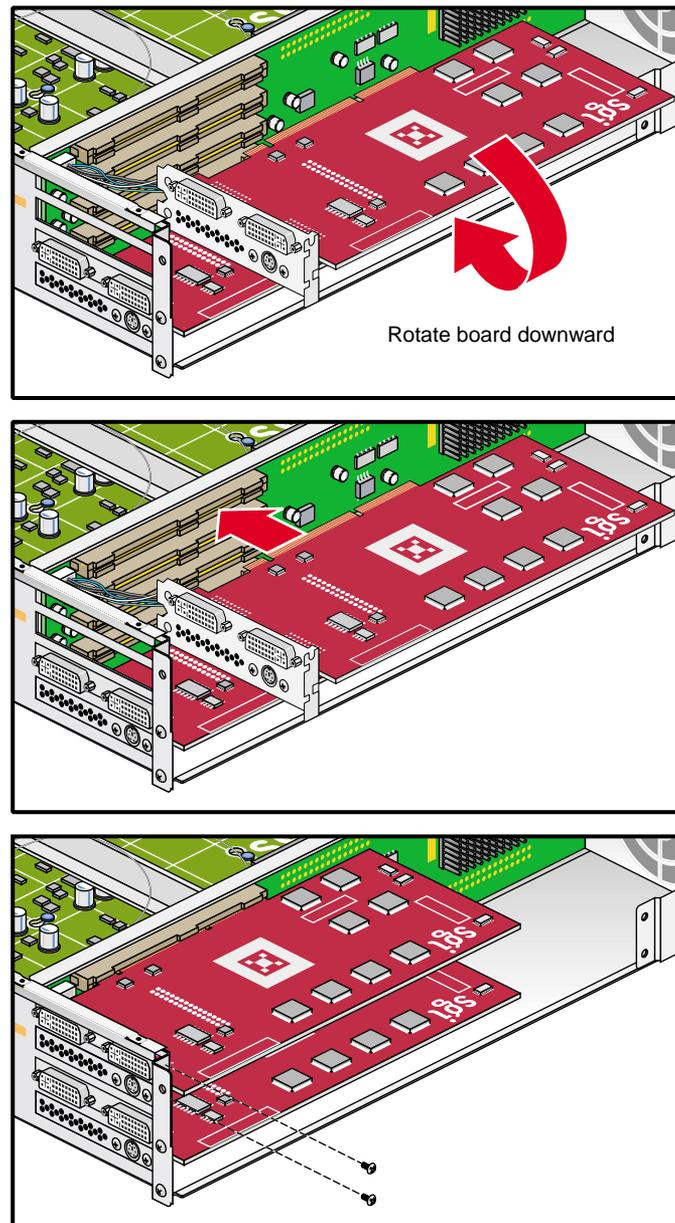

Figure A-18 Installing the Graphics Card and Retaining Screws
3. Insert the card into the slot from which the old graphics card was removed by pushing the card into the connector until it is properly seated and installing the back panel retaining screws, as shown in Figure A-18.